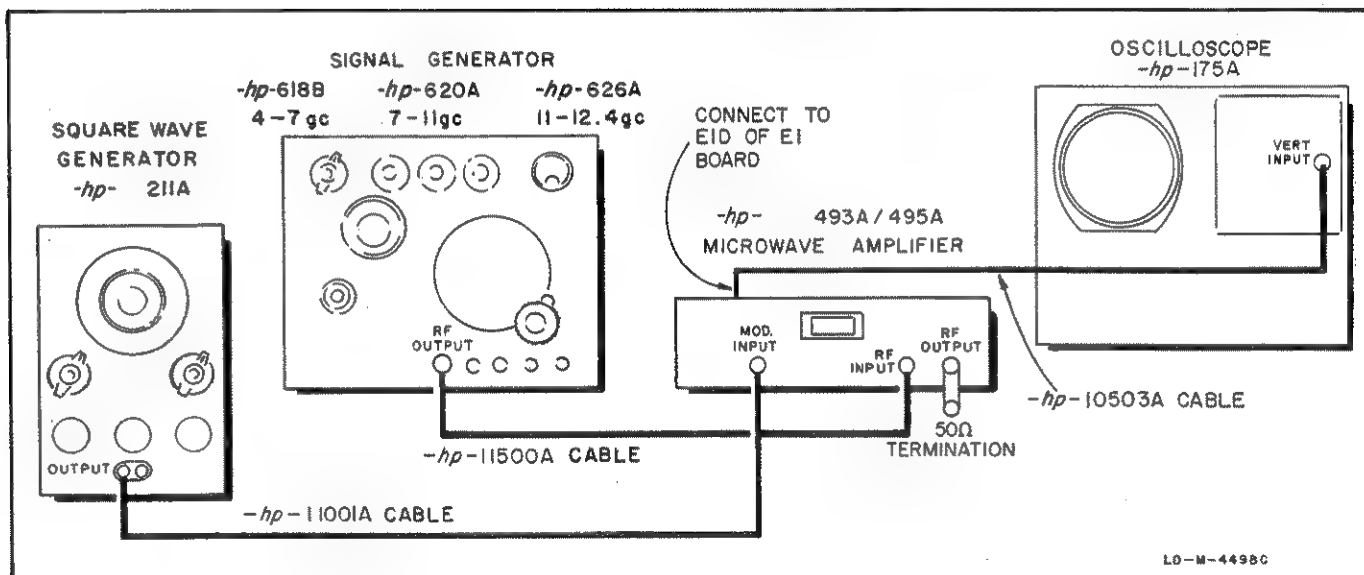

Figure 5-6. Frequency Response Setup
a. Connect the Model 493A/495A as shown in figure 5-6.